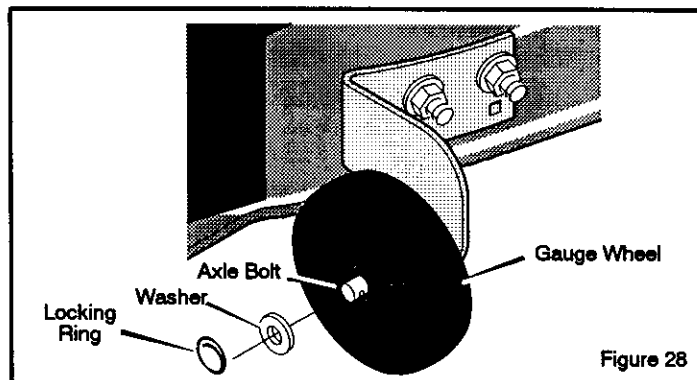

Figure 28
1. Remove the gauge wheels (Figure 28).